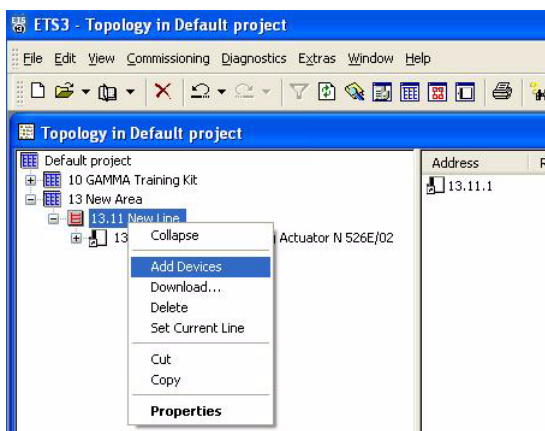

FIG. 24 ETS3 - Topology in Default Project - context menu
1. Identify the appropriate *Area* and *Line* at which the physical NXB-KNX will be connected, and right-click on the Line name (heading) to access the context menu (FIG. 24):